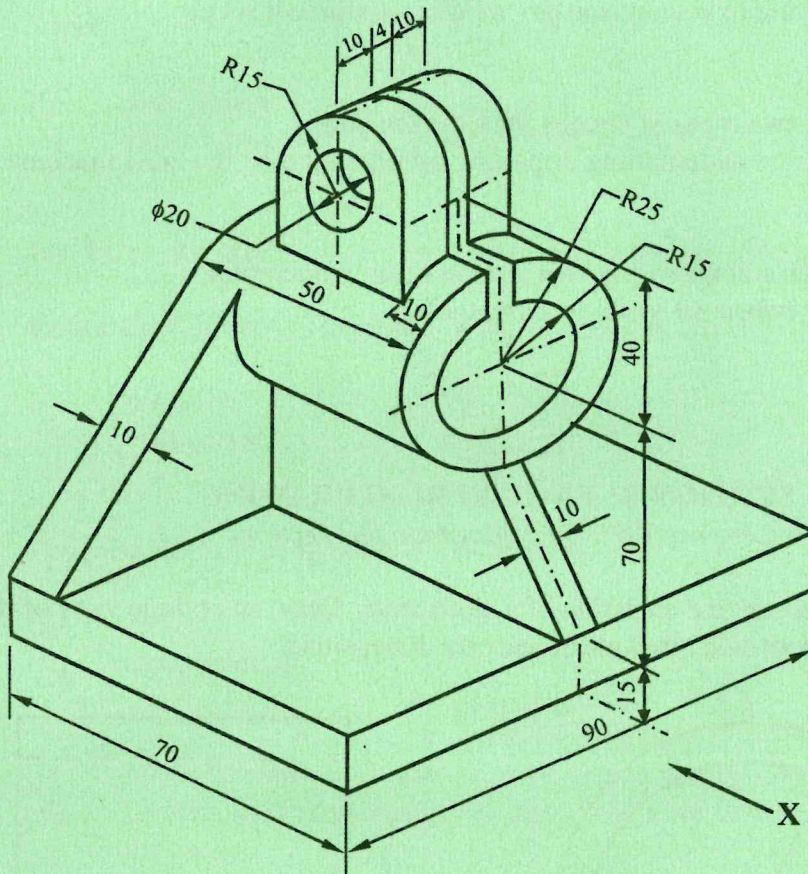

Fig. 2
6. Figure 2 shows a pictorial view of a block. Draw the following views of the figure using first angle orthographic projection: